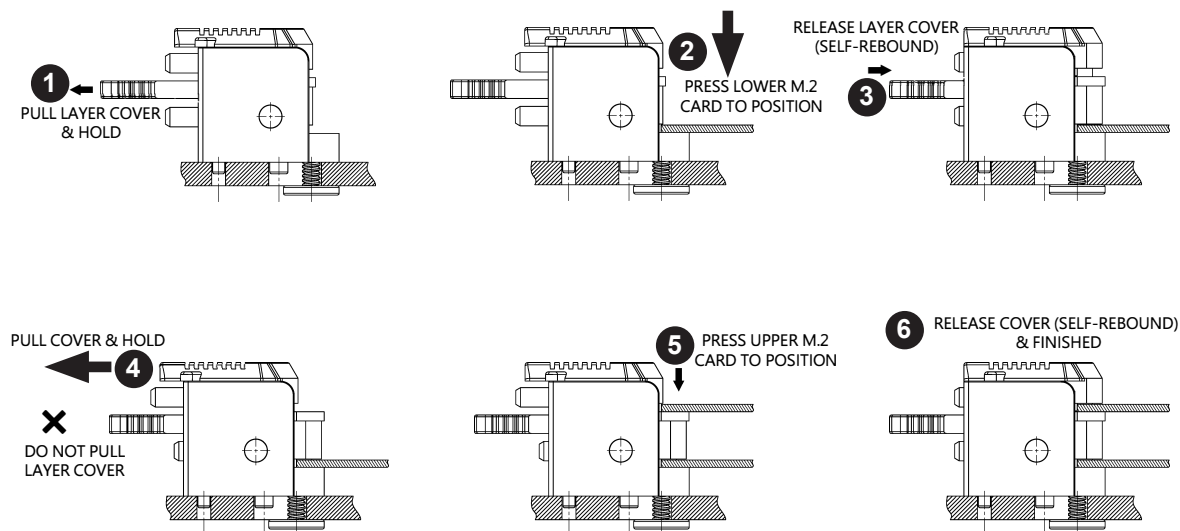

Figure 3-19. Installing a Drive into a Carrier
3. Insert a PCIe Gen 3 x4 M.2 SSD into the lower J7 slot. Next, follow the instructions from ❶ to ❸ in Figure 3-19.
4. Insert a PCIe Gen 3 x2 M.2 SSD into the upper J7 slot. Next, follow the instructions from ❹ to ❺ in Figure 3-19.